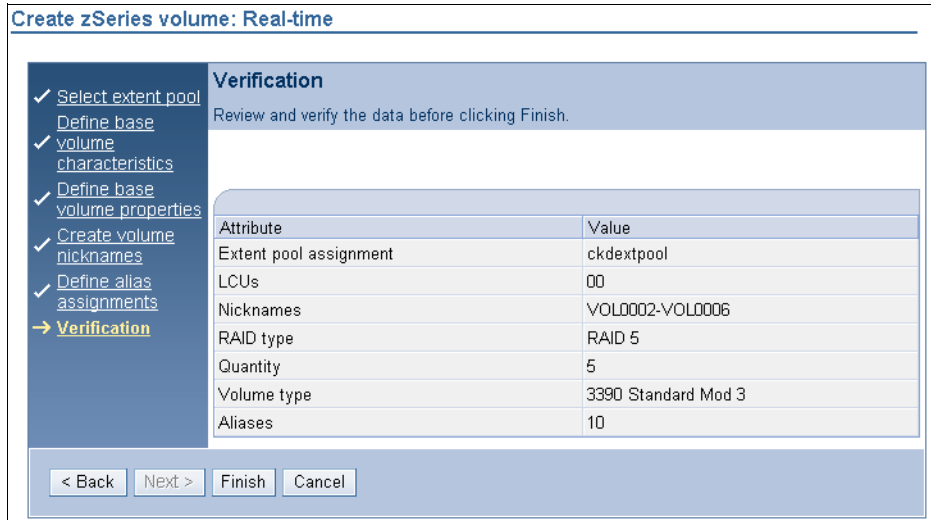

Figure 10-48 Verification window
- ▶ Click **Add aliases** and click **Next** to go to the verification window shown in Figure 10-48.